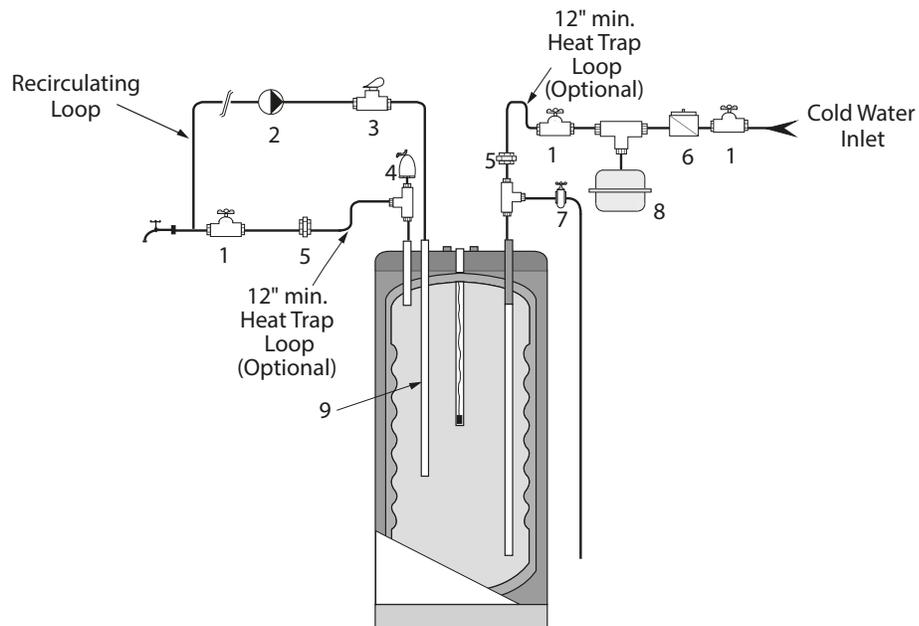
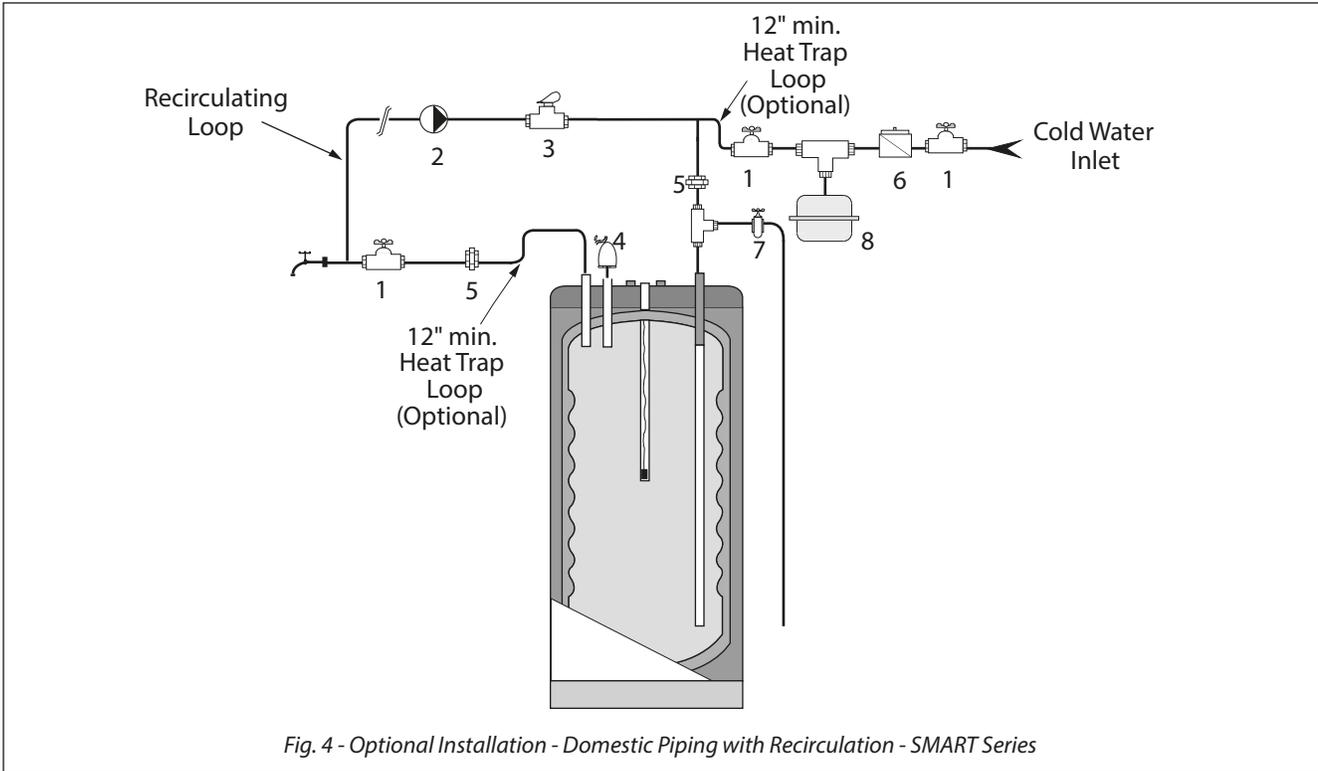

Fig. 3 - Standard Installation - Domestic Piping with Recirculation - SMART Series
Fig. 4 - Optional Installation - Domestic Piping with Recirculation - SMART Series
- Install the T&P relief valve in the run (straight through leg) of a tee located at the domestic hot water outlet when using the **Auxiliary** connection for a recirculation return (Refer to *Fig. 3 on page 7*).
- Install a tee connection at the domestic cold water inlet (Refer to *Fig 3 & Fig. 3 on page 7, and Fig. 4 on page 8*).
- It is recommended that the recirculation dip tube be installed in auxiliary connection, as shown in *Fig. 3 on page 7*. See *Table 1* below for diameter and length of dip tube.